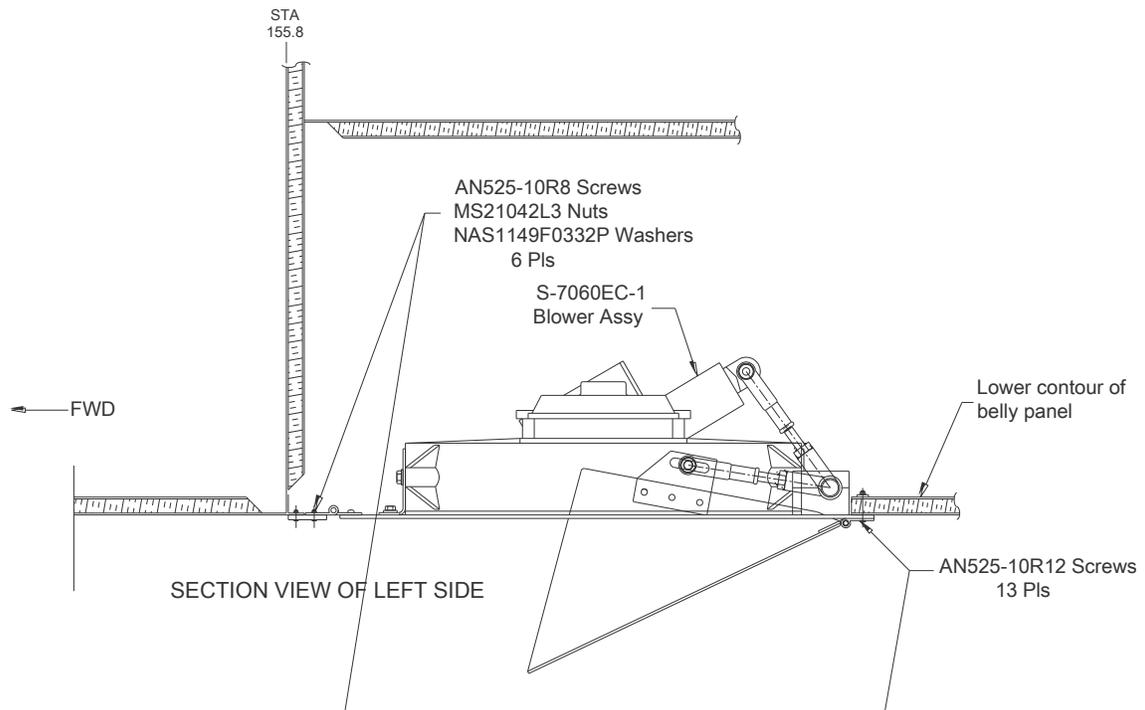
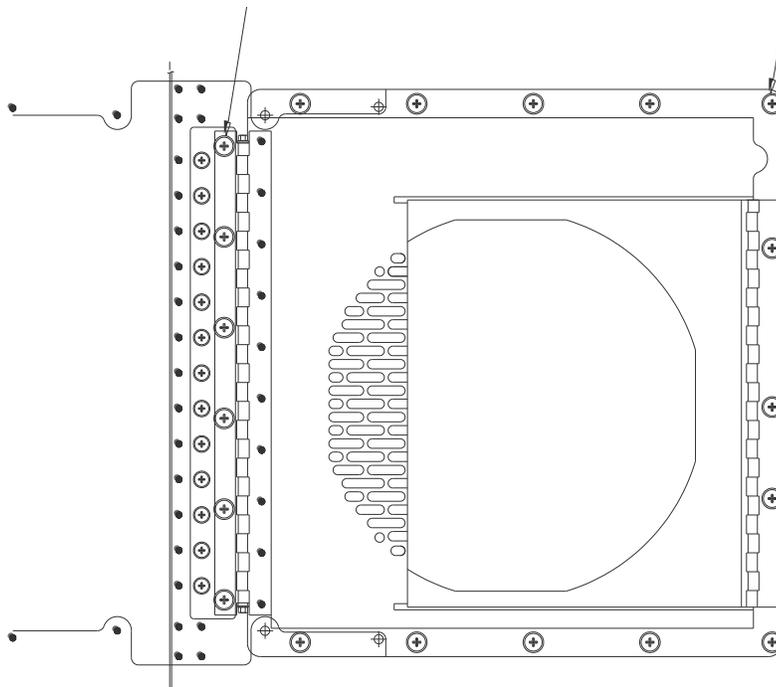

Figure 15: Condenser Install
Figure 16: Condenser Install - View C-C
11. REMOVE AND REPLACE CONDENSER BLOWER ASSEMBLY (Figure 15 and Figure 16).